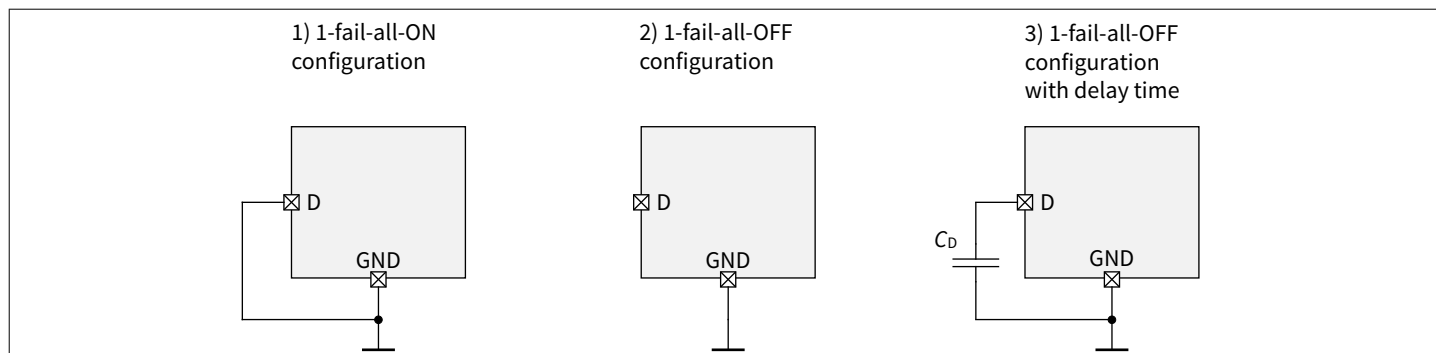

Figure 13 D pin configurations
- To react to error conditions in LED arrays according to the implementation fault management policy, in systems where multiple LED chains are used for a given function as illustrated in Figure 13